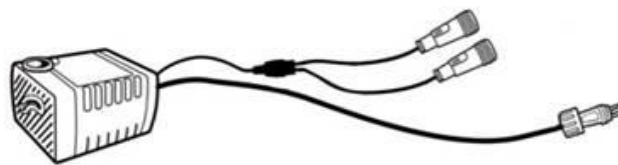

Fig. 3
5. If the pump runs with low or high water circulation Check and adjust the regulator dial or slide on the front of the pump. Adjust the dial/slide towards (+) to increase water flow or towards (-) to decrease water flow. (Fig. 3)